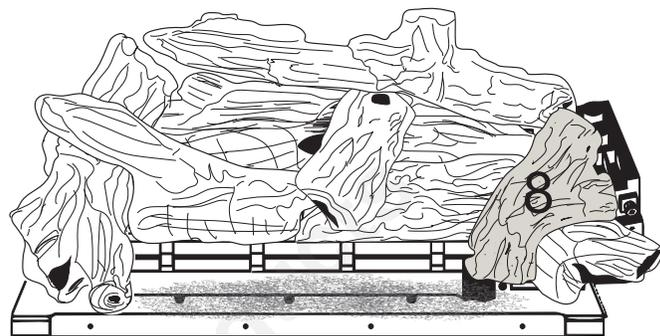

Figure 5.9 - Log #8 Placement
- Hold Log #8 with the branched end away from you. Place log #8 by positioning the pin locator hole on the bottom of the log over the pin on log #1 and by rotating the log counter clockwise to match the notch on the log with the first tine on the grate. See Figure 5.9.